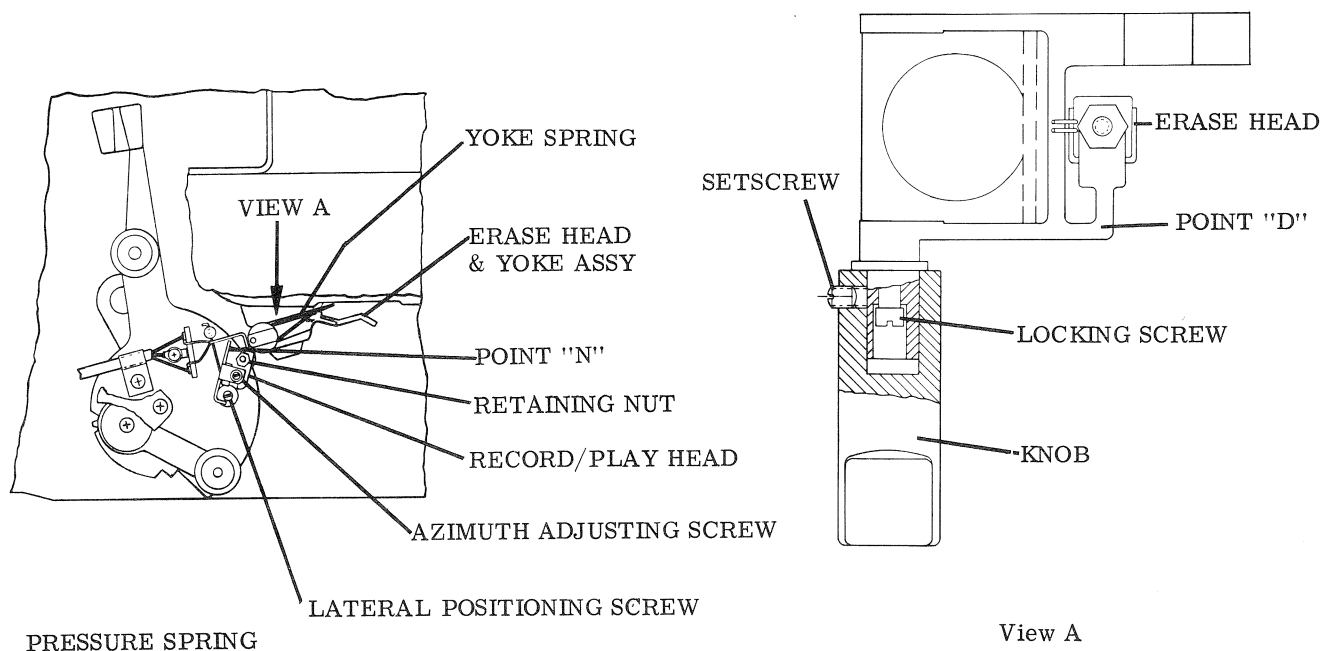

Figure 3-45. RECORD/PLAY HEAD & ERASE HEAD
17. Record/Play Head (Figure 3-45)
(4) Adjust lateral position screw to point where maximum voltage output is observed.
18. Erase Head (Figure 3-45)